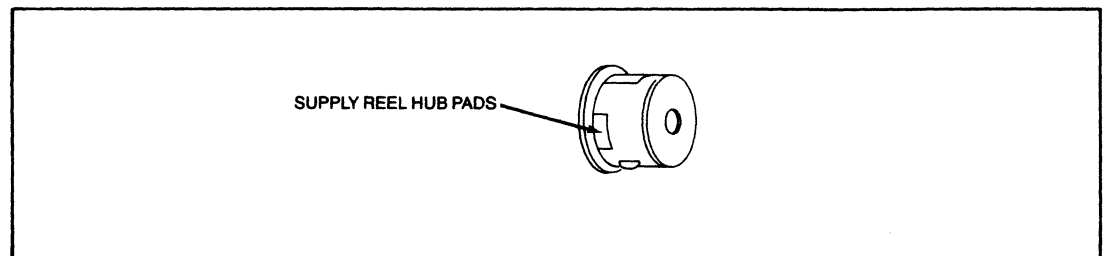

Figure 4-3. Supply Hub Pads
- Supply reel hub pads – Clean the supply reel hub pads (Figure 4-3) with a lint-free cloth moistened with transport cleaning fluid (or equivalent solvent). Make sure not to soak the cloth with solvent.